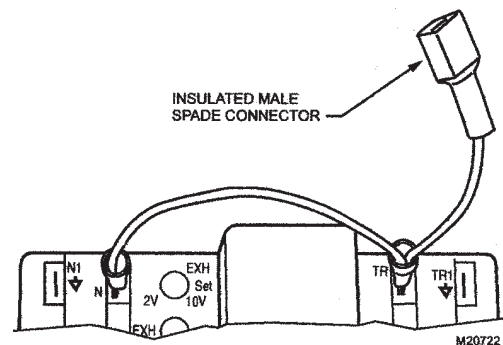

Fig. 4. Jumper required for systems without occupied/unoccupied control.
- Occupied/Unoccupied overrides minimum damper position setting when building is unoccupied: To enable the minimum damper position, 24  $\pm$ 6 Vac must be applied to terminal N relative to N1 using either the supplied jumper or an external power source. (See Fig. 4.) Without power across these terminals, the damper is allowed to close fully. (Terminal N1 connects internally to TR1.)